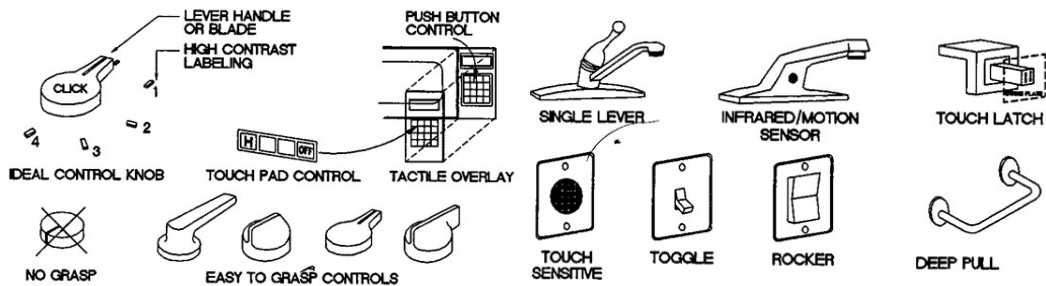

Figure 8
- The dishwasher should not open into the clear space provided for the dishwasher or the sink. The clear space should be positioned to allow for access from either side of the dishwasher. A minimum space of 21" should be allowed between the face of a cabinet and the edge of a dishwasher when cabinets are located at a right angle to the dishwasher. Care should be given to ensure that entry doors, appliance doors, and cabinet doors do not interfere with one another. (See Figure 8 for additional information on appliance controls and types.)